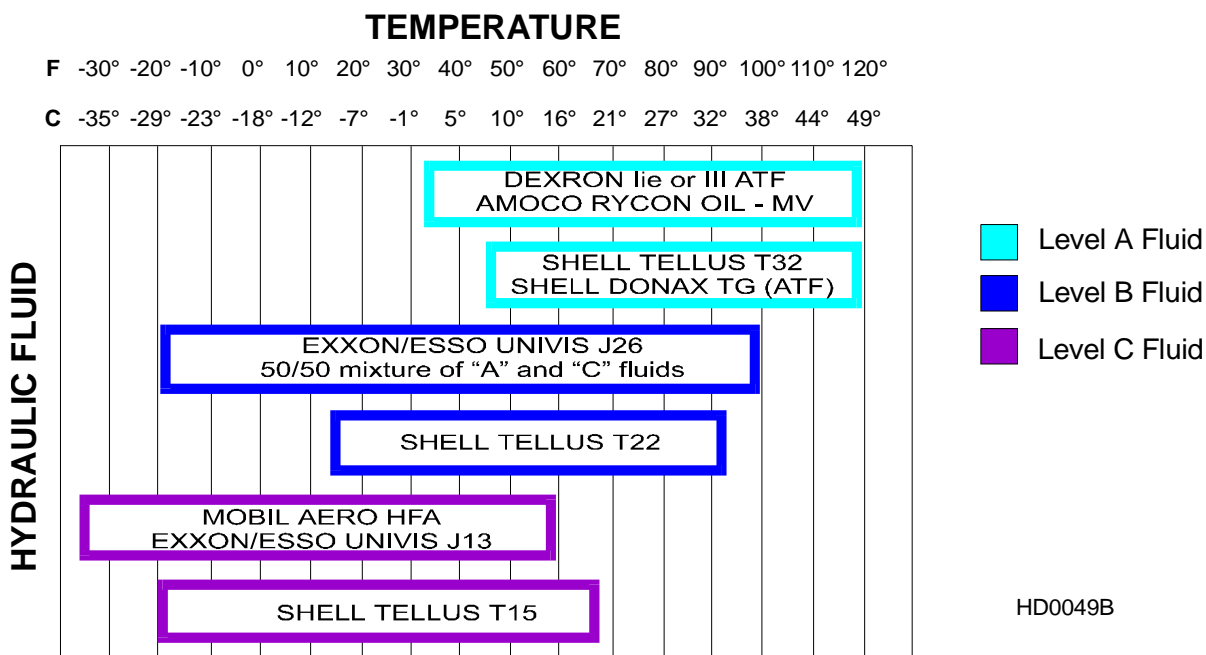

FIG. 3-7
**See Figure 3-7.** If you are operating in temperatures -20° to 100° F (-29° to 38° C), use an all-weather hydraulic fluid such as Exxon Univis J26. For alternate fluids and/or other temperature ranges, refer to the chart below. Operating above the recommended temperature range of a fluid could result in excessive pump wear. Operating below the recommended temperature range could result in reduced hydraulic cylinder speed.